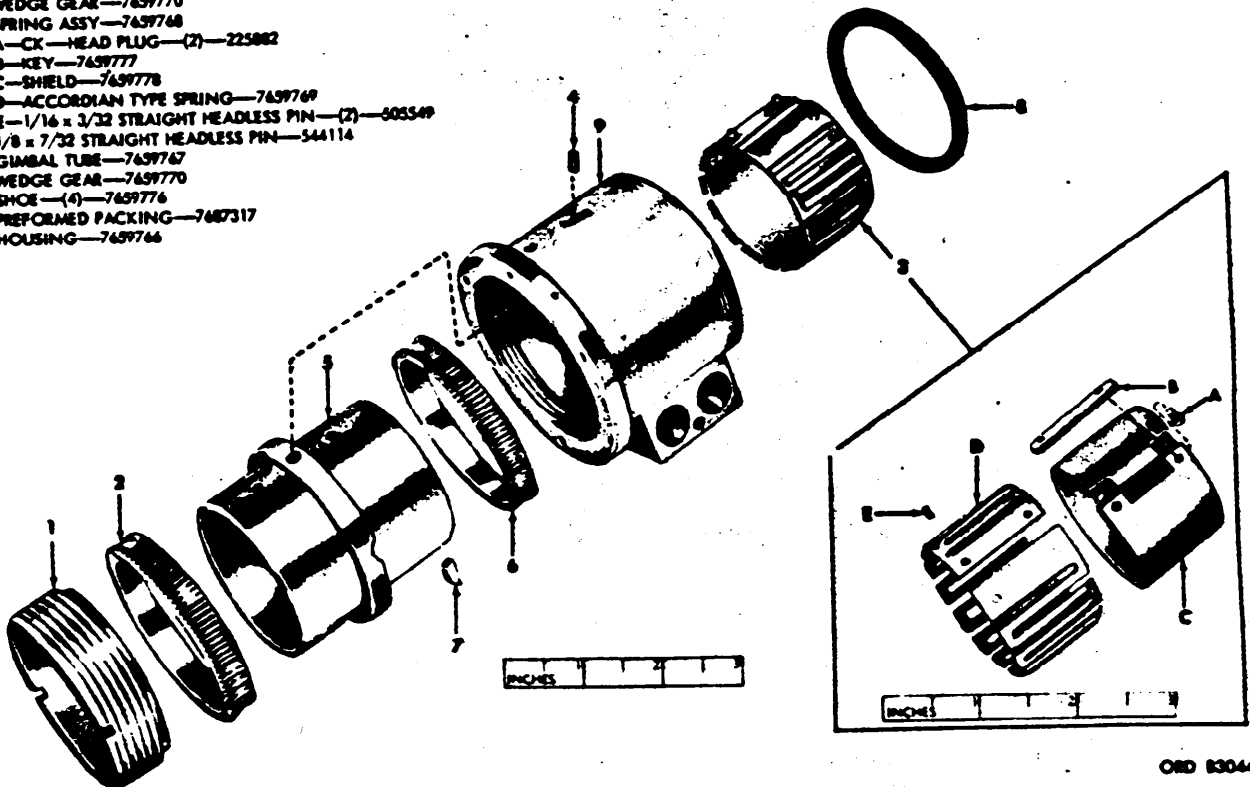

Figure 10. Telescope mount M110 - partial exploded view.
Shield bent (not concentric) . . . . .	Replace shield (fig. 10) (par. 35).
Spring broken . . . . .	Replace spring (fig. 10) (par. 35).
a. Remove and disassemble components in legend sequence (fig. 10).
Assemble and install component in reverse legend sequence (fig. 10). Placing wedge gears on the tube with the inclined faces of the gears against the shoes. Apply grease to wedge gears and shoes. Install retaining ring using tubular spanner wrench 5120-345-1417 (fig. 9).